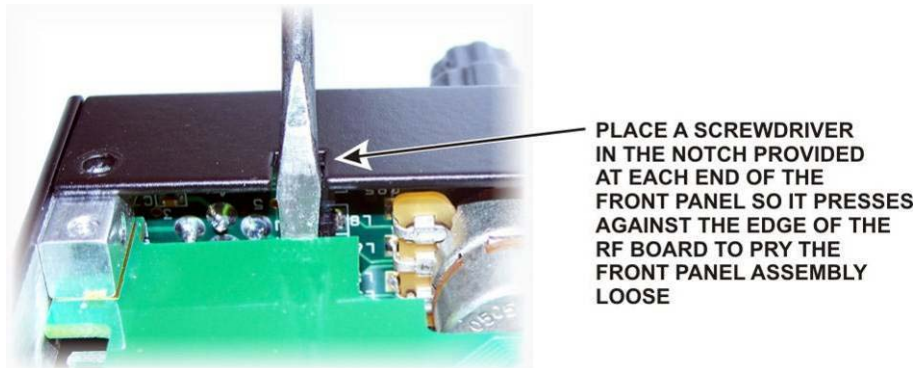

Figure 9. Separating the Front Panel Assembly from the Chassis.
- Use a screwdriver in the pry tool openings to press back against the circuit board while pushing the lip on the front panel assembly toward the front as shown in Figure 9. **Do not insert the screwdriver any farther than necessary to avoid damaging components!** When you have the front panel assembly free, set the main chassis aside in a safe place.